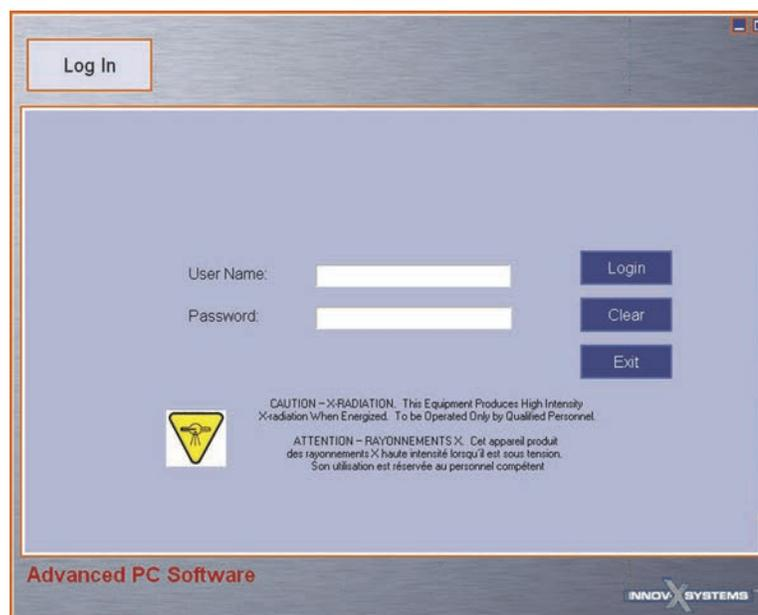

Figure 1-3 The DELTA PC Software Log In window
2. In the **Log In** window, type a **User Name** and **Password**, and then click **Login** (see Figure 1-3 on page 7).